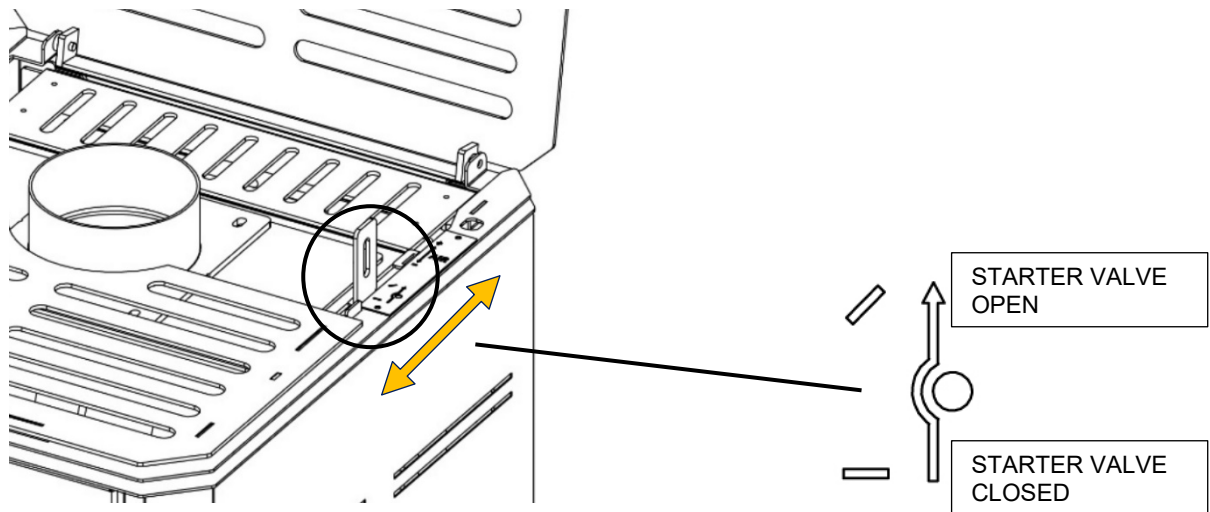

Fig. 15
- 1 Place the starter lever in the open position (fig 15)